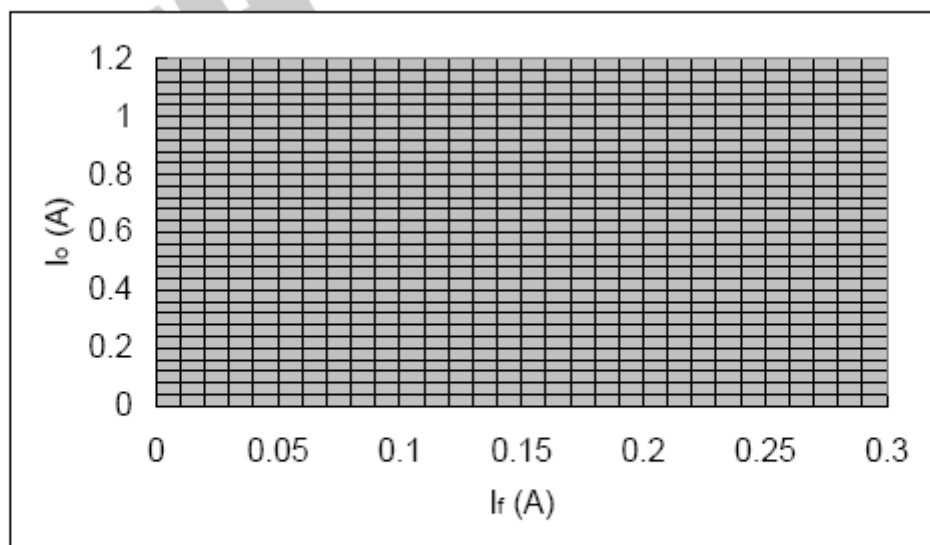

Fig.15-3-3 The I_o vs I_f curve
10. Using the results of Table 15-3-1, plot the I_o vs I_f curve on the graph of Fig.15-3-3.